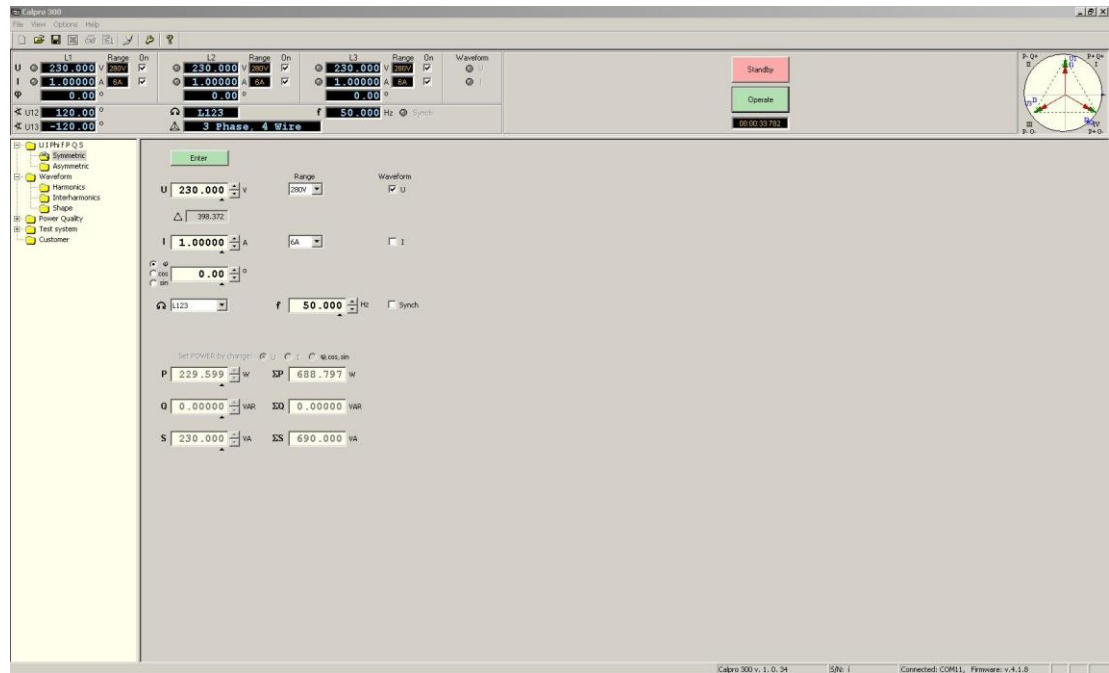

Fig.4. Main window Calpro300 with switched on harmonics in voltage channels.
- after uploading harmonics need to go back to main window Calpro300, set ranges, voltage and current amplitude and switch on harmonics in voltage and/or current outputs. As on Fig.4. where harmonics were switched on only for voltage outputs